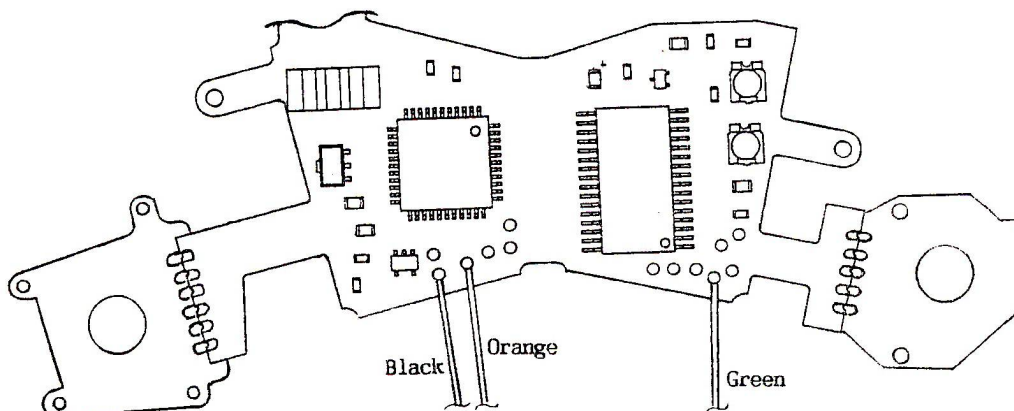

Fig. 2
- 7) Unsolder (see Fig.2) the green, orange and black lead wires coming from the Hot Shoe while holding up the Top Cover Ass'y (1AEAA230) and then remove the Top Cover Ass'y.